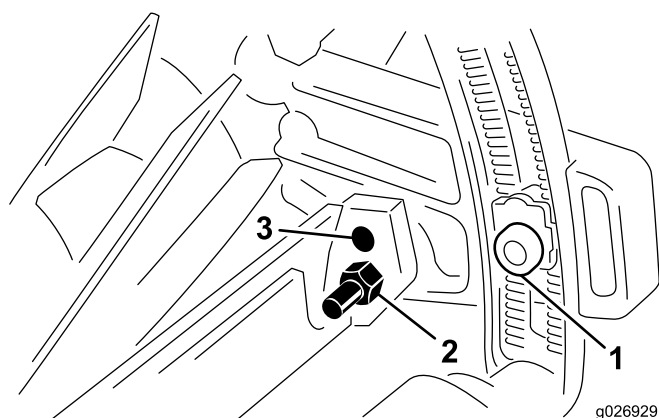

Figure 7
1. Loosen the capscrews securing the adjusting nuts in the roller brackets (Figure 7).